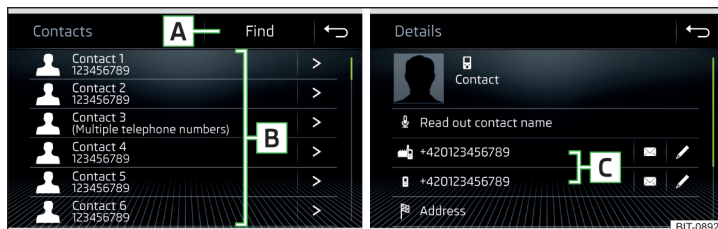

Fig. 199 List of telephone contacts / contact details
- › In the *Telephone* main menu, tap on the function surface  and a list of telephone contacts will be displayed » Fig. 199.